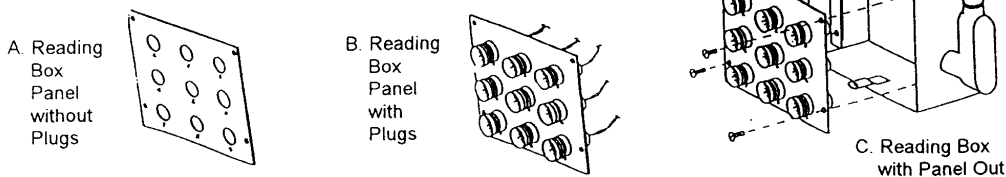

FIGURE 4.
- A. Remove the reading plug panel from the enclosure. **See Figure 4.**